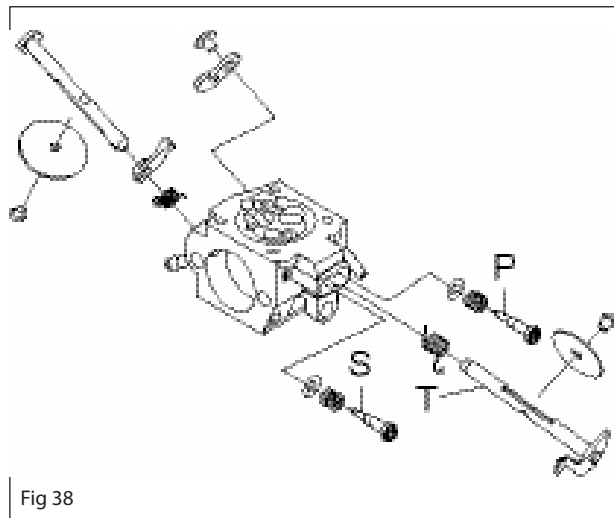

Fig 38
4. That the inlet manifold is intact. See figure 38.
1. If the throttle valve with shaft, lever arm and spring is removed, this must be assembled. The spring is tensioned 1-2 turns. Lubricate the shaft bearings using a light oil. See figure 38.